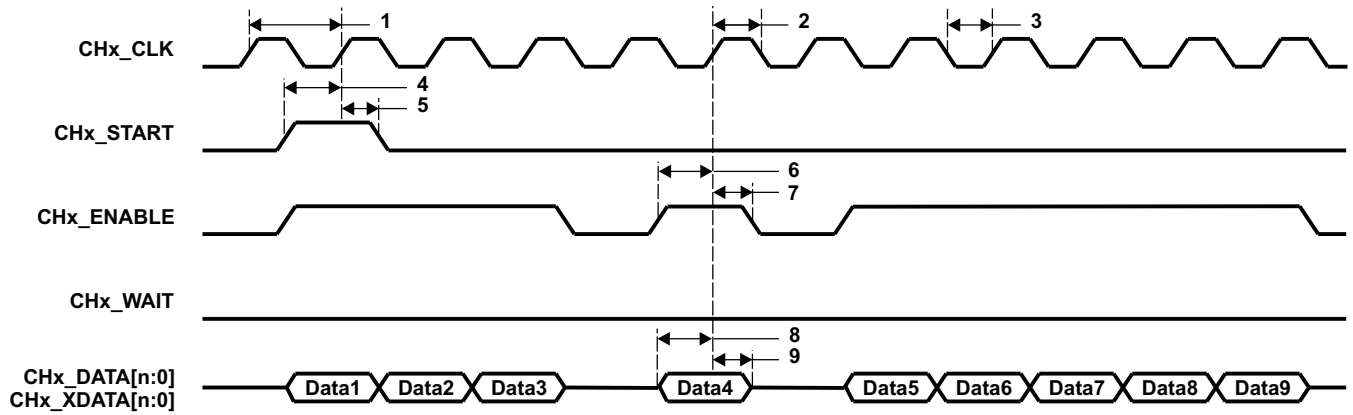
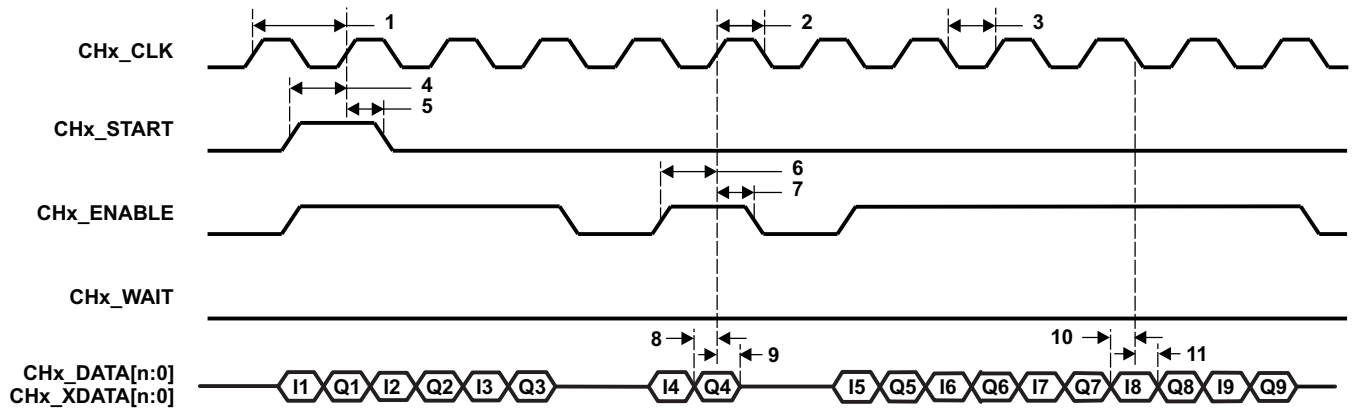
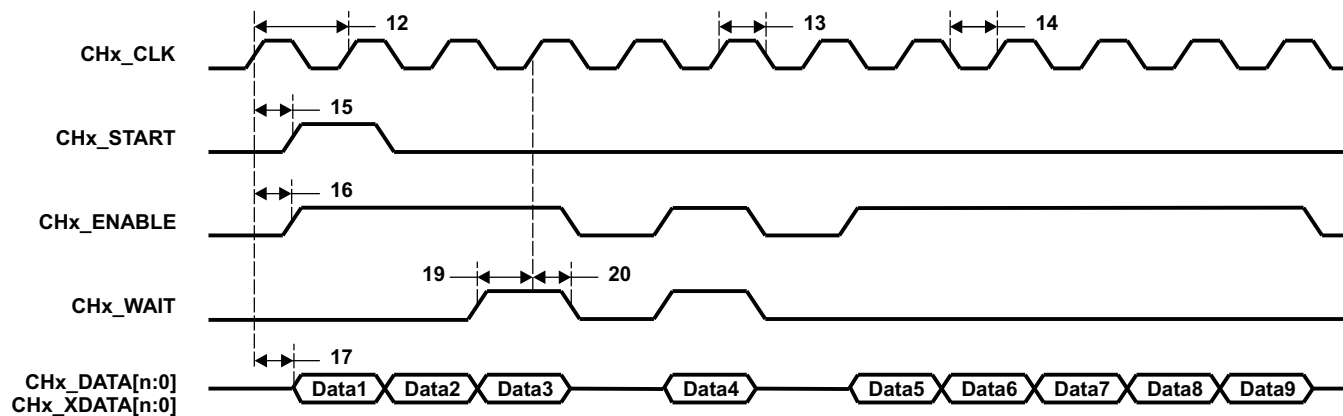
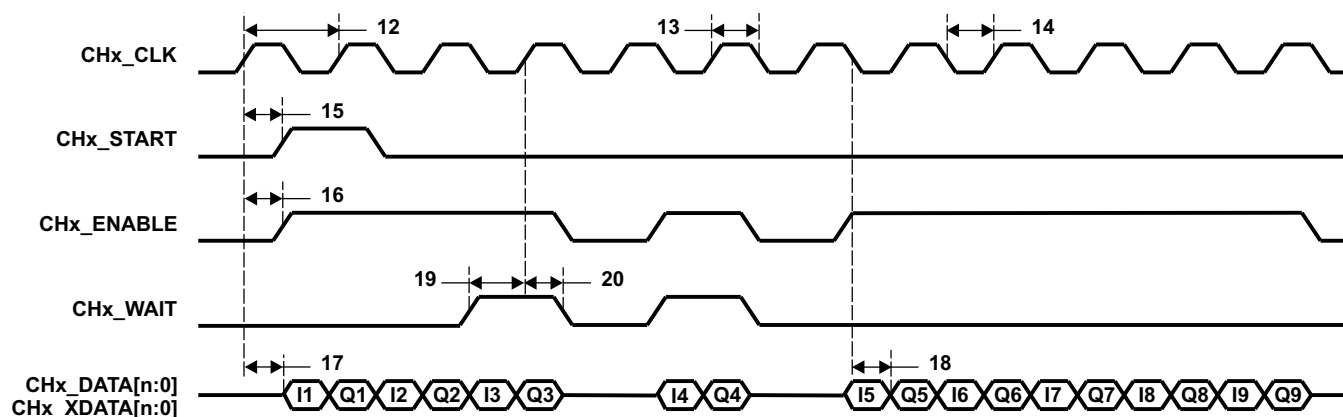

Figure 5-71. uPP Single Data Rate (SDR) Receive Timing
Figure 5-72. uPP Double Data Rate (DDR) Receive Timing
Figure 5-73. uPP Single Data Rate (SDR) Transmit Timing
Figure 5-74. uPP Double Data Rate (DDR) Transmit Timing
**Table 5-118. Timing Requirements for uPP (see Figure 5-71, Figure 5-72, Figure 5-73, Figure 5-74)**